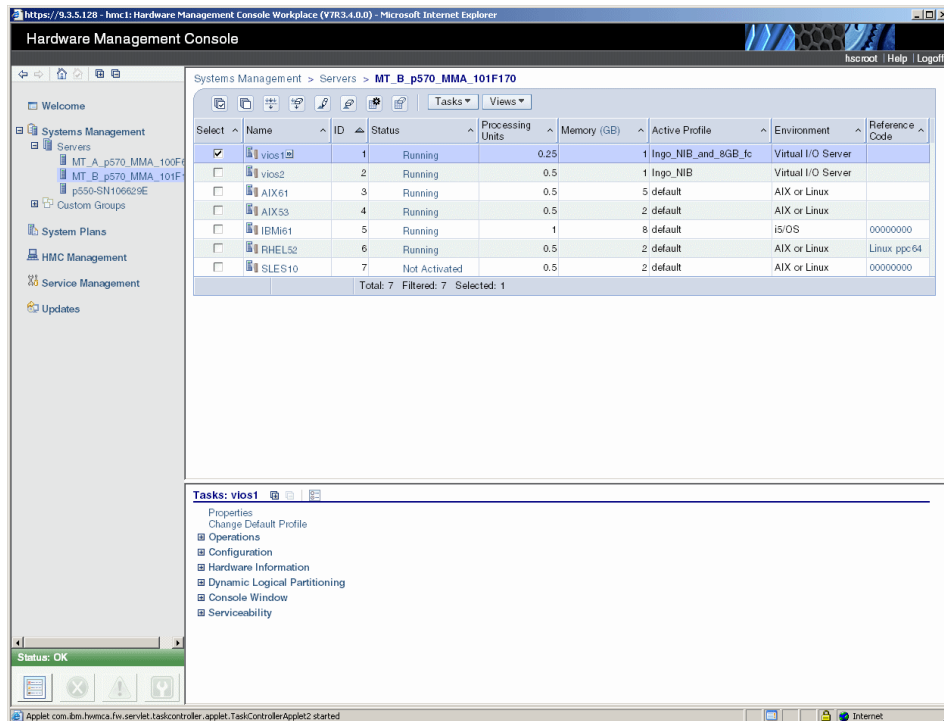

Figure 6-14 LPAR overview menu
1. Log in to HMC and then select the system-managed name. On the right select the partition where you want to execute a dynamic LPAR operation, as shown in Figure 6-14.